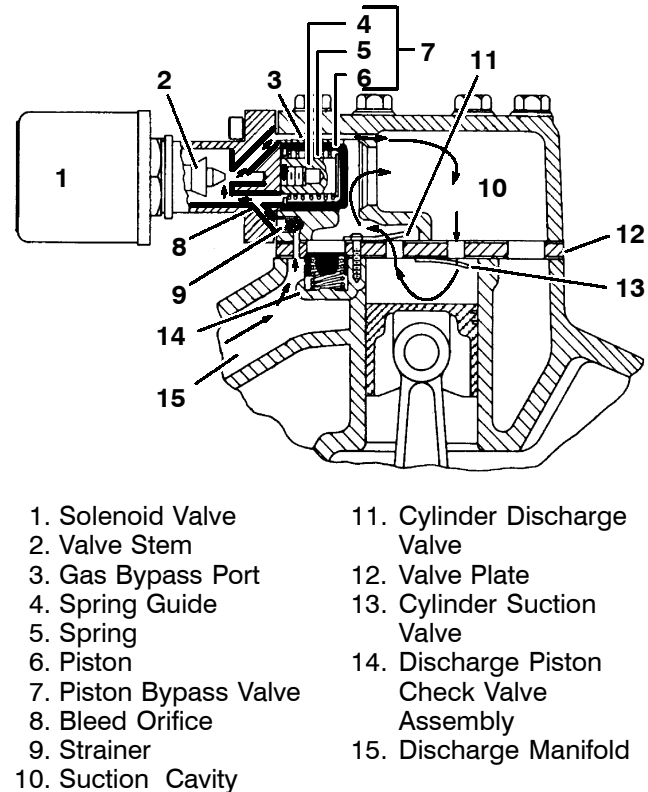

Figure 1-5. Compressor Cylinder Head Unloaded – Hot Gas Bypass
The capacity controlled cylinder is easily identified by the solenoid which extends from the side of the cylinder head. When the solenoid energizes, the cylinder unloads allowing discharge gas to circulate as shown in Figure 1-5. The unloaded cylinder operates with little or no pressure differential, consuming very little power. A de-energized solenoid reloads the cylinder as shown in Figure 1-6.
Pressure from the discharge manifold (Figure 1-5, item 15) passes through the strainer (9) and bleed orifice (8) to the back of the piston bypass valve (7). Unless bled away, this pressure would tend to close the piston (6) against the piston spring (5) pressure.